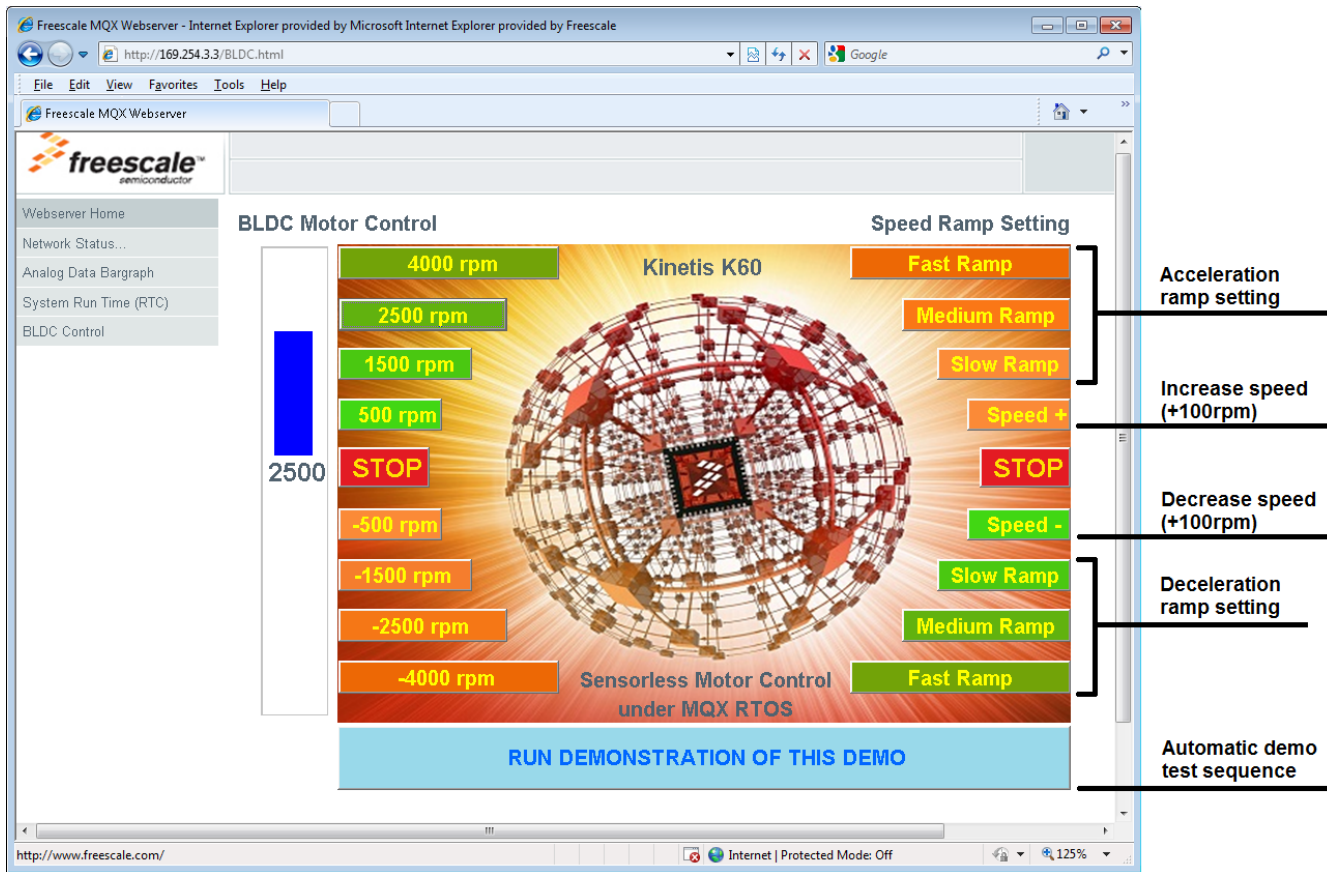

Figure 8. Web page for speed control
5. You should see the web page as in Figure 8.